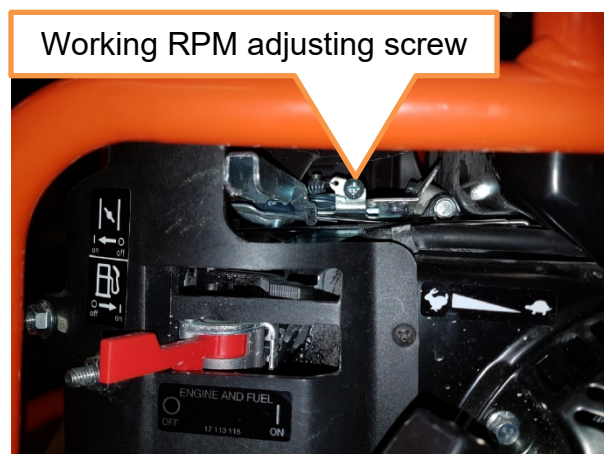

Figure 11:
2. Set the working RPM to  $3750 \pm 100$  (figure 11).